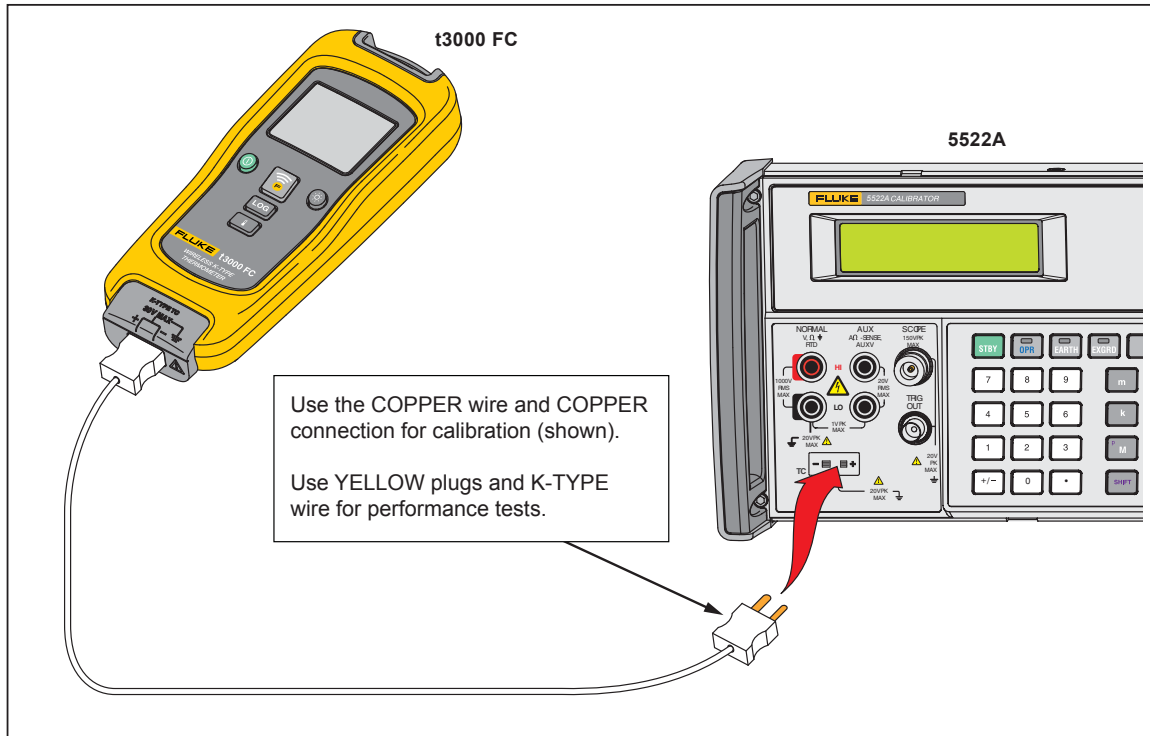

Figure 2. Performance Test and Calibration Connections
1. Connect the Product to Calibrator with the K-type thermocouple wire and the thermocouple connector. See Figure 2.
*To source 30 mV dc from the 5522A Calibrator thermocouple output, it is necessary to select the **10 μ V/ $^{\circ}$ C Type** from the softkey menu of the 5500A. Then source 3000 $^{\circ}$ C. The connections are the same as in Figure 2 but it is necessary to use the thermocouple and wire specified for calibration that is shown in Table 2. Do not use the thermocouple and wire specified for the performance test.*